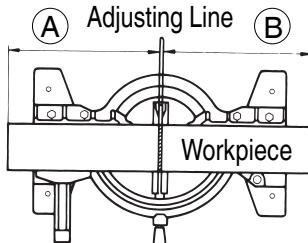

Fig. 8
- (1) Since saw blade width represents cutting width, slide the workpiece to the right when length (B) is desired. (**Fig. 8**)
- (2) When the saw blade has reached maximum speed, push the handle down carefully so the blade approaches the workpiece.
- (3) When the saw blade contacts the workpiece, push the handle down gradually to produce cutting.
- (4) When the cutting (or desired cutting-in) has been completed, raise the handle up to the retract position.
- (5) Turn the tool OFF after each cutting operation is completed, and allow the saw blade to come to a complete stop before preparing for the next operation.